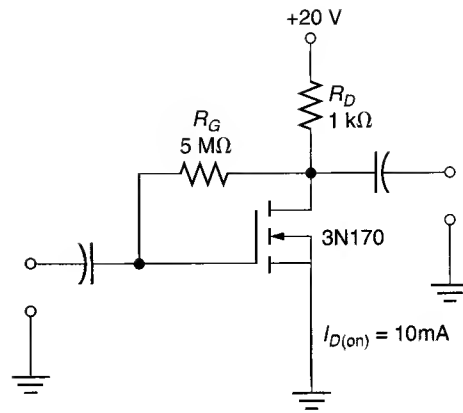

FIGURE 13.14
Determine the values of I_D and V_{DS} for the circuit shown in Figure 13.14.
8. What change(s) would you make to the circuit shown in Figure 13.14 to increase the Q -point value of I_D ?